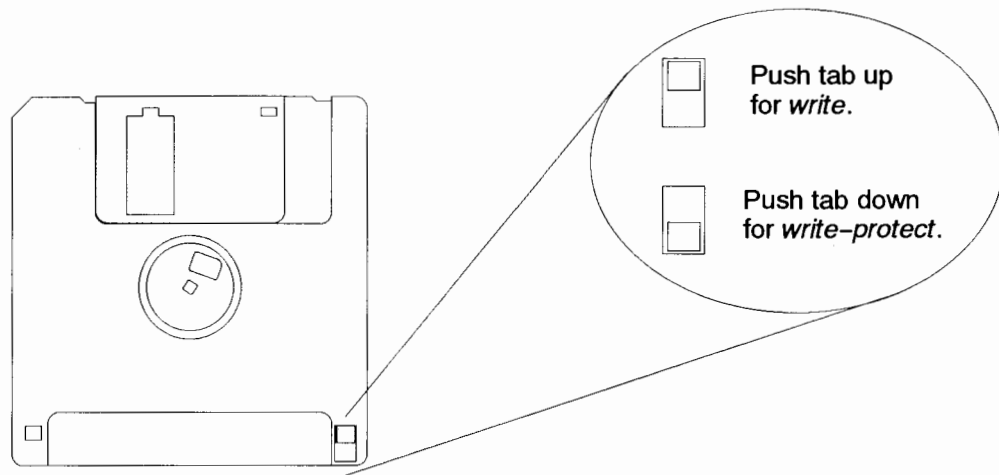

Figure 3-1. Setting the Write-Protect Tab on a Floppy Diskette
You can only store or change information on a diskette when the write-protect tab is in the *write* position. So, before trying to write to the diskette, make sure that the write-protect tab is in the *write* position, as shown in Figure 3-1.
To protect files on a diskette from being overwritten, set the write-protect tab to the *write-protect* position, as shown in Figure 3-1.
2. Make sure that the write-protect tab on the floppy diskette is in the *write* position, as shown in Figure 3-1.